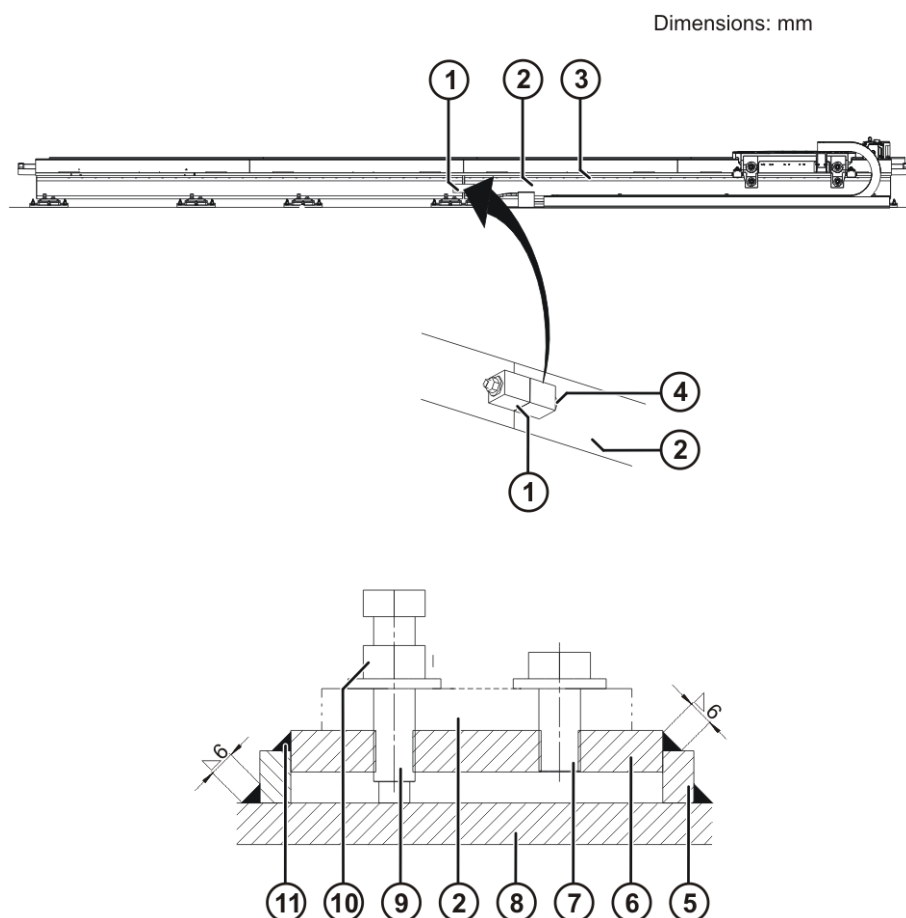

Fig. 8-4: Installation
1. Lower the beam sections of the linear unit with bolted-on strips (>>> Fig. 8-4) (6) onto the plates.
3. Insert an M16x150-8.8 hexagon bolt (4) with nut and lock washers into the connecting assembly and tighten with a torque of $M_A = 195 \text{ Nm}$.
14. Weld the linear unit to the plate (8) and the strip (6) using the side strips (>>> Fig. 8-4) (5).
16. Tighten the hexagon nut (10) with a torque of $M_A = 370$ Nm.